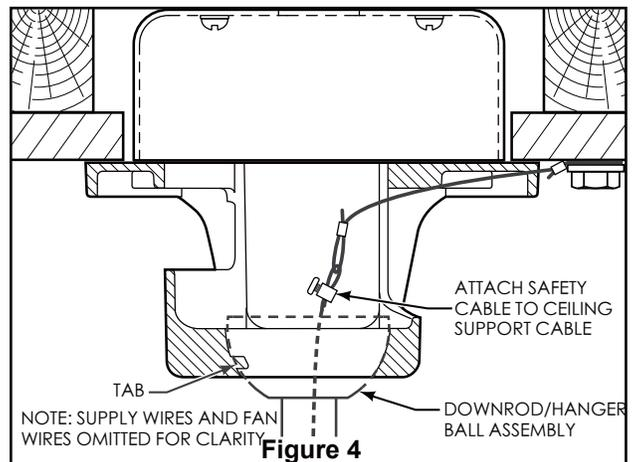

Figure 4
4. Slide downrod into the downrod support on top of the motor. Install the clevis pin by aligning the holes in the downrod support with holes in the downrod. Secure clevis pin with hairpin clip. Install and tighten the two set screws with nuts in the downrod support. (Figure 4)
4. Carefully lift the fan and seat the downrod/hanger ball assembly on the hanger bracket that was just attached to the ceiling joist. Be sure the groove in the ball is lined up with tab on the hanger bracket. (Figure 4)
5. Attach the safety cable to ceiling support cable. Slide cable clamp onto safety cable (from fan). Place the end of cable through the loop of ceiling support cable. Pull as much cable through loop as possible. Feed end of cable into clamp hole and firmly tighten screw (Figure 4). Cut off excess safety cable.